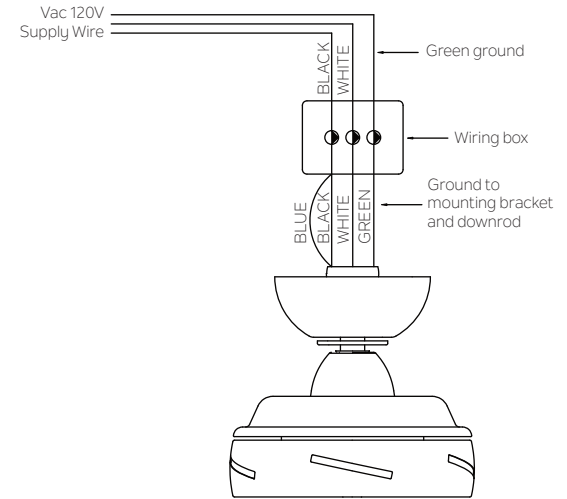

Fig. 13
Step 1. Connect the fan supply (black) wire and light supply (blue) wire to the black household supply wire as shown in Figure 13.